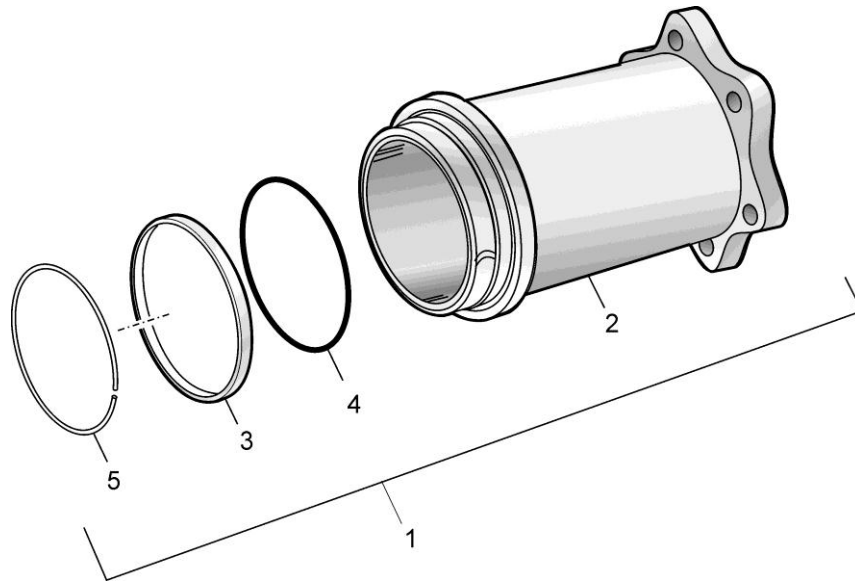

FIGURE 1
5.1 Reassemble in reverse order of disassembly (Refer to Figures 1 through 7), observing the following:
numbers of the table are keyed to the exploded view of the units diagrammed in Figures 1 thru 7.